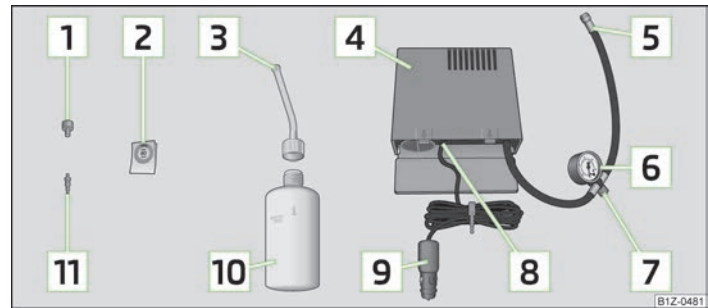

Fig. 152 Components of the breakdown kit
- Stick the sticker  » Fig. 152 on page 183 on the dash panel in view of the driver.
- Forcefully shake the tyre inflator bottle  » Fig. 152 on page 183 several times.
- Screw the tyre inflation hose  » Fig. 152 on page 183 of the air compressor firmly onto the tyre valve.